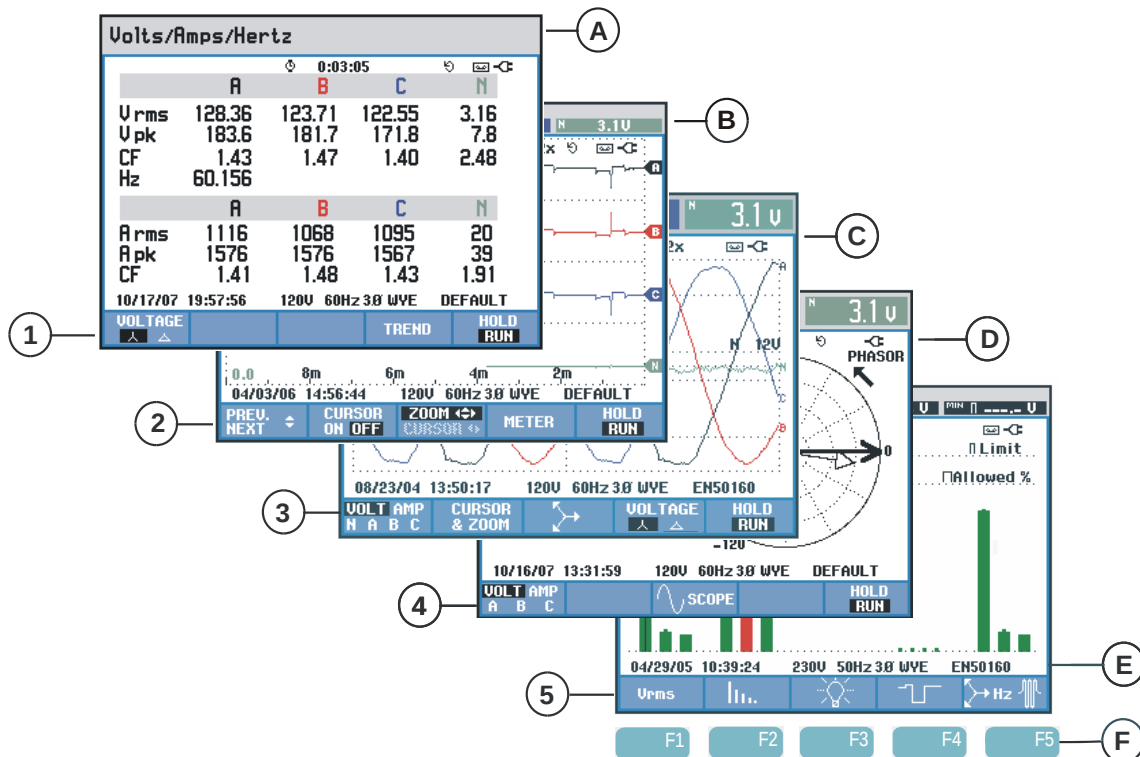

Figure 5-1. Survey of Display Types
Below you will find a brief description of each screen type and its purpose. The measuring mode it is used for is given as well as the manual chapter with detailed information. Bear in mind that the amount of screen information depends on the number of phases and the wiring configuration. Refer to Figure 5-1, item 1 ... 5.
Refer to Figure 5-1, item A ... F